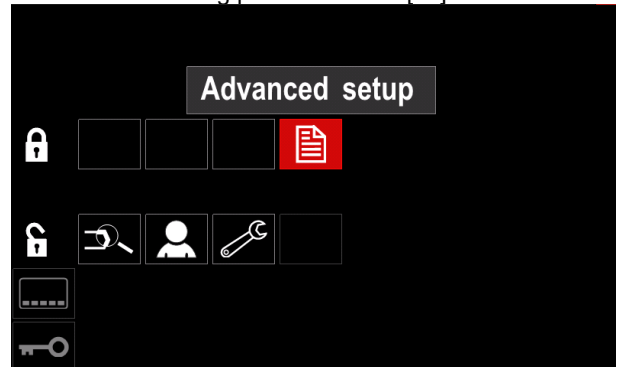

Figure 47
- Press the Right Knob [36]. The icon of chosen parameter will disappear from the lower part of the display (Figure 47). Also this parameter disappear from the Welding parameters bar [44].